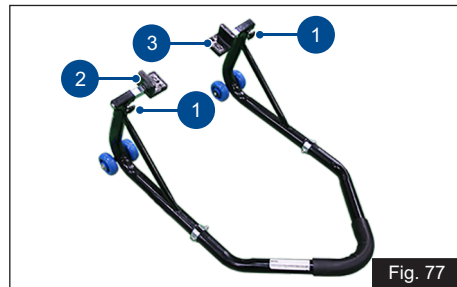

Fig. 77
- ◆ Loosen the clamping screws (1) of the stand adopters.
- ◆ Move away the adopters (2 & 3) in such way that the swing arm fits between them (ref. Fig. 77).